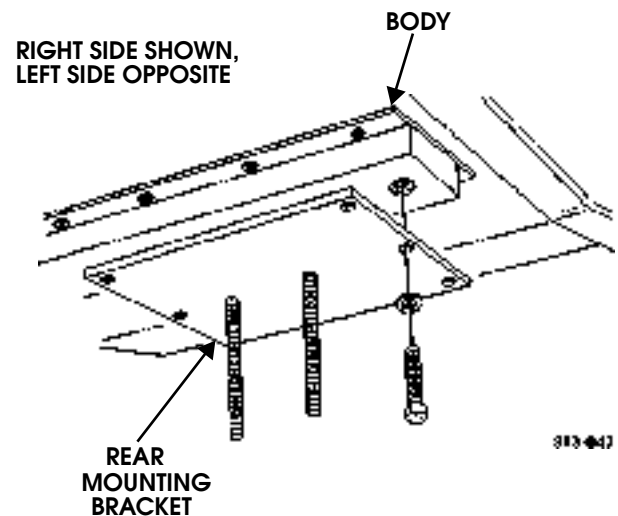

Figure 13-49: Rear Mounting Bracket
7. Remove two bolts, lockwashers, and rear mounting bracket from body (Figure 13-49).
- Install rear mounting bracket on body with two lockwashers and bolts. Tighten bolts to 29-31 lb-ft (39-42 N•m) (Figure 13-49).